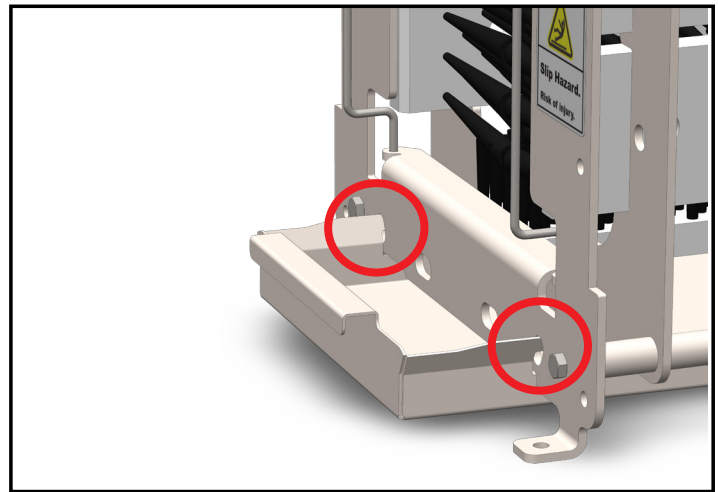

Fig. 4.2: Attachment points for Debris Tray
2. Make sure the tabs on the plate line up with the holes on the unit, as shown in [Figure 4.2]